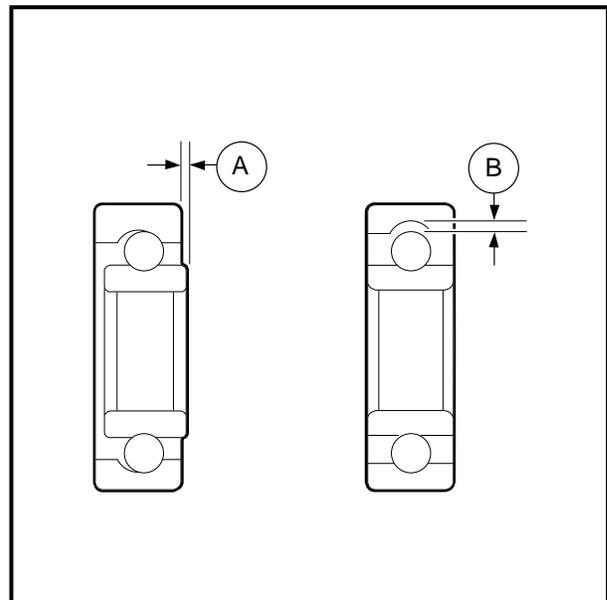

Figure 15-13 Inspect Bearing
1. Using a clean cloth, wipe the carbon dust off the bearing. Inspect the bearing by spinning it by hand and checking for both axial (A) and radial (B) play (**Figure 15-13, Page 15-9**).